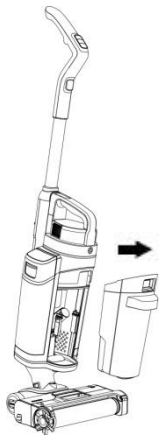

Figure 4-12
Step 3: Dump the sewage, as shown in Figure 4-12;